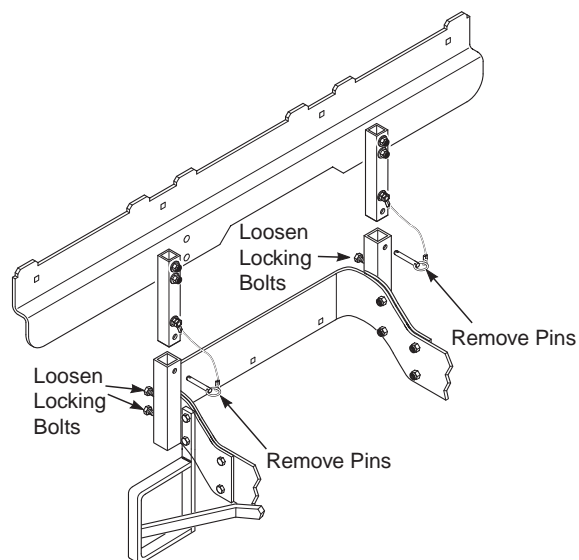

FIGURE 4-2
5. Loosen the locking bolts and remove the two (2) pins holding the hood assembly to the mounting posts on the rear of the machine. See Figure 4-2.